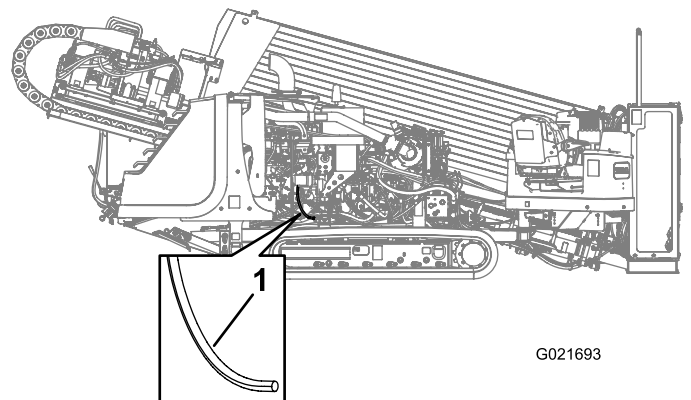

Figure 114
3. Gently pull the crankcase-vent tube out (Figure 114).
4. Clean the end of the crankcase-vent tube (Figure 114).